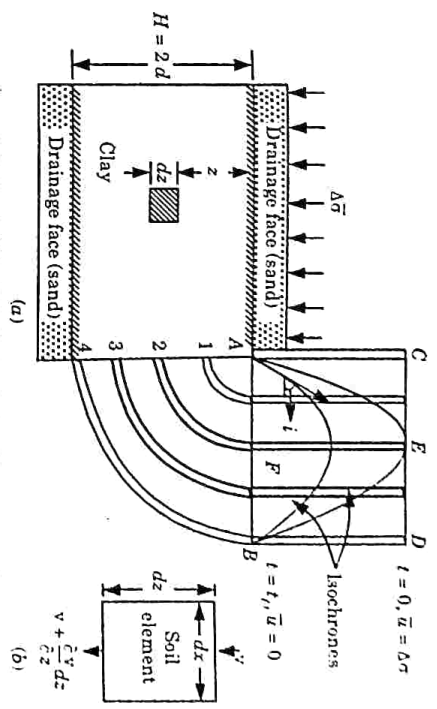

Fig. 3.12.1. One dimensional consolidation.
- Fig. 3.12.1, shows a clay layer of thickness H , sandwiched between two layers of sand which serves as drainage faces.